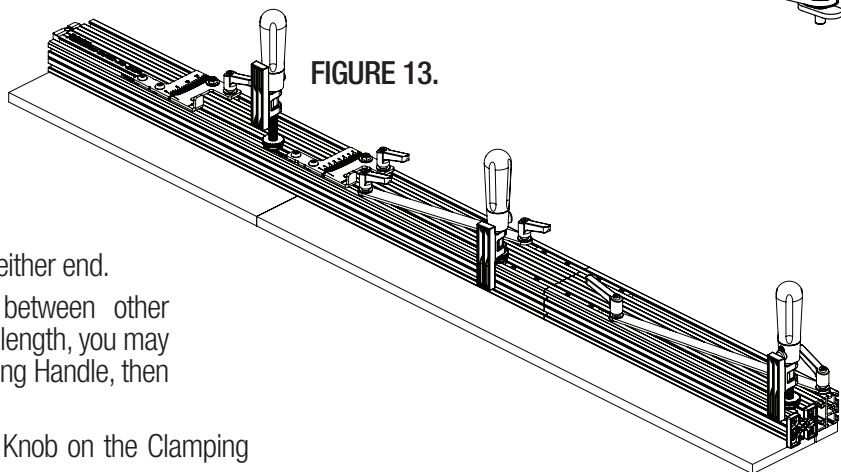

FIGURE 13.
14. When complete, your Precision Taper Jig should now be 48" long. **FIGURE 13.**